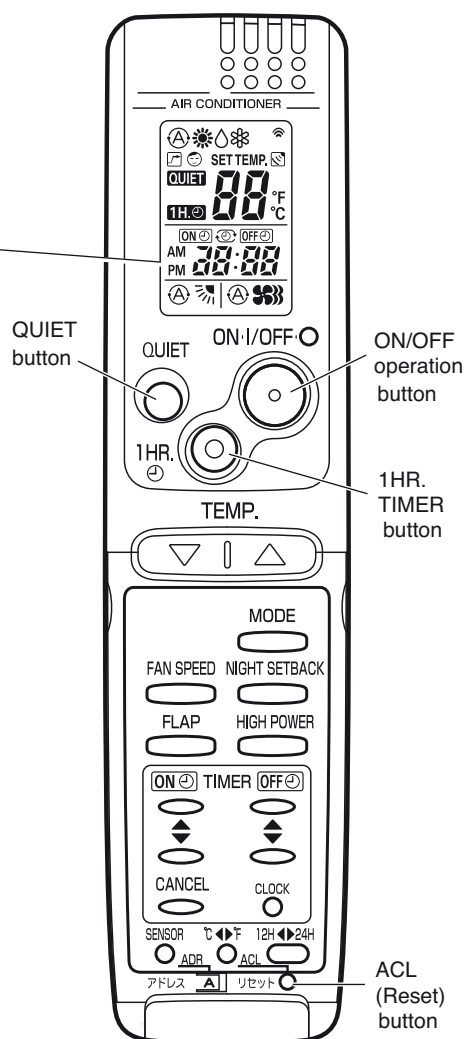

Fig. 64
(Fig. 64)
- (5) "oP-7" has now been selected for address setting.
- (6) Press the ON/OFF operation button on the remote controller. (Fig. 64) Check that the "beep" signal-received sound is heard from the second indoor unit (approximately 5 times). The sound you hear is the signal that the remote controller address has been changed.
- (7) Finally press the remote controller ACL (Reset) button to cancel the blinking "oP-7" display.